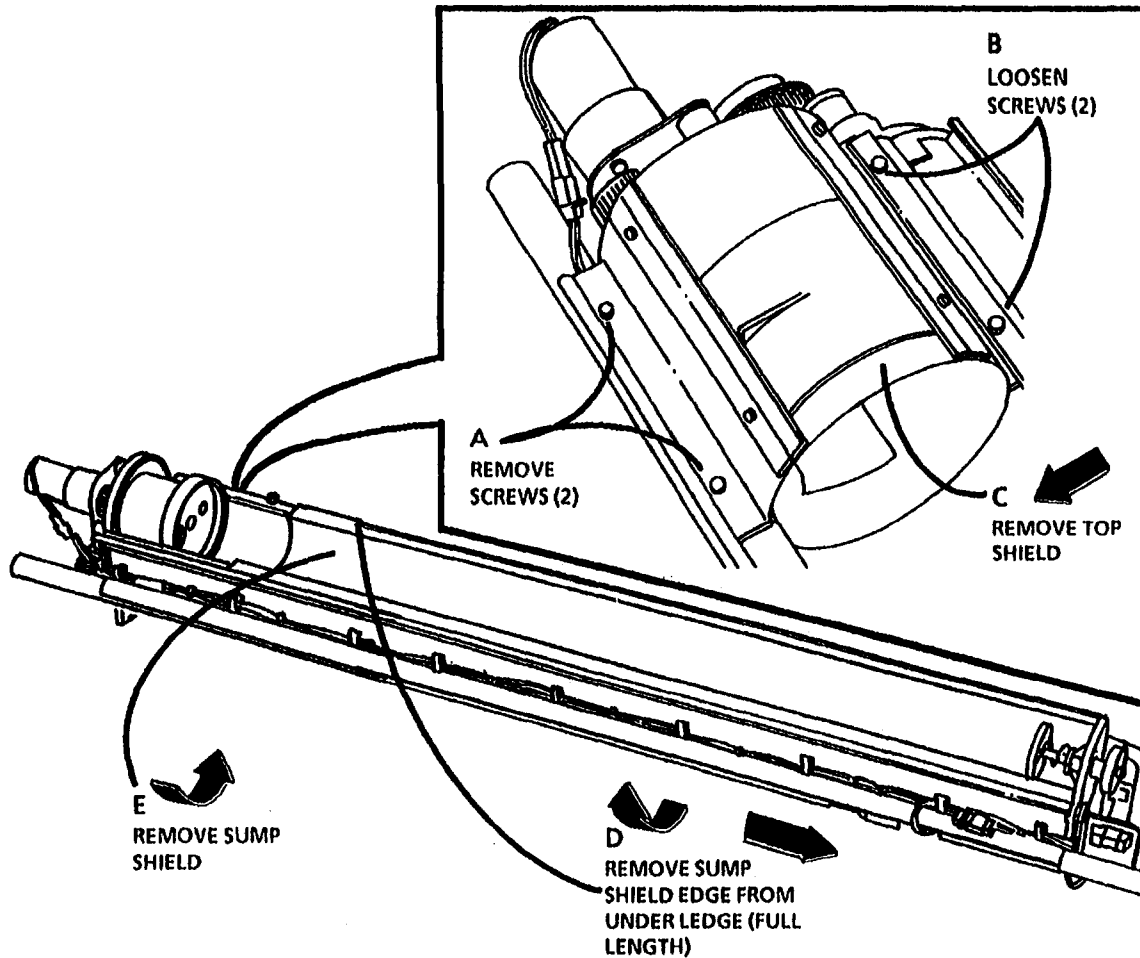

Figure 9. Remove the Sump Shield from under the Toner Cartridge
16. (Figure 9): Remove the Sump Shield from under the Toner Cartridge.